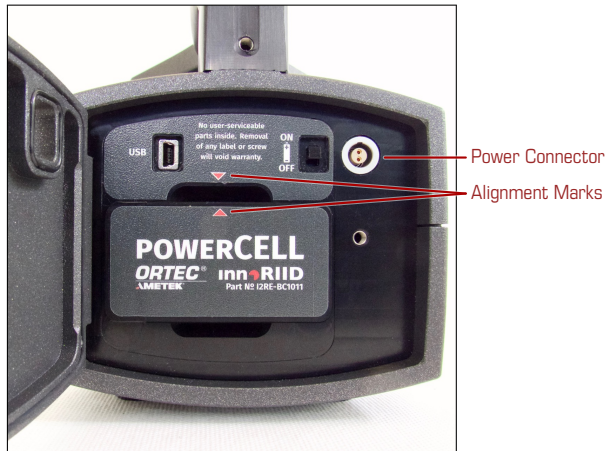

Figure 134: The POWERCELL correctly mounted in the RADEAGLE.
- The triangle at the back side of the POWERCELL pack must align with that above the compartment in the instrument (Fig. 134, p. 111).